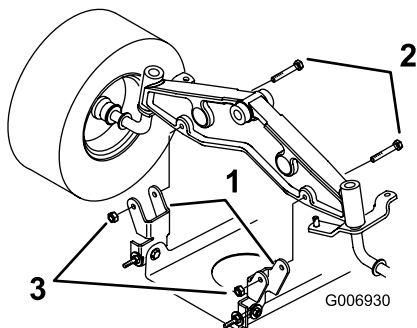

Figure 39
8. Remove the bolts and lock nuts and pull the two mower pivot mount brackets down from the front axle (Figure 39).